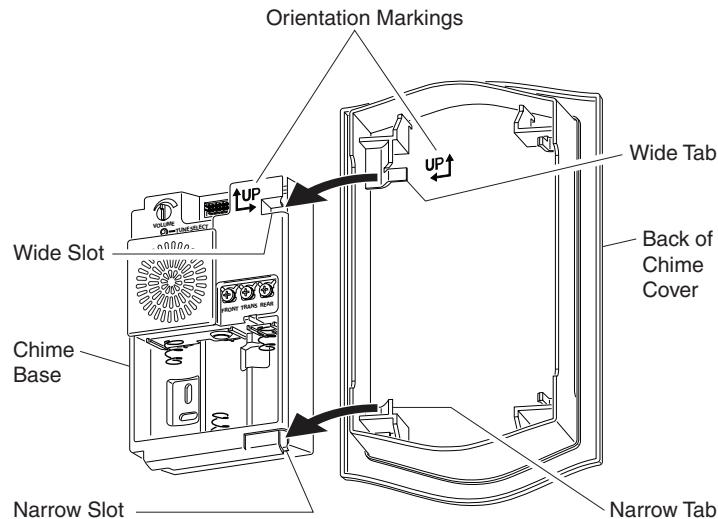

Figure 10
1. Align the wide tab on the cover with the wide slot on the base and the narrow tab on the cover with the narrow slot on the base (see Figure 10).
2. Insert tabs into slots and rotate cover onto base (see Figure 10). The cover will snap into place and should fit flush against the wall when properly installed.